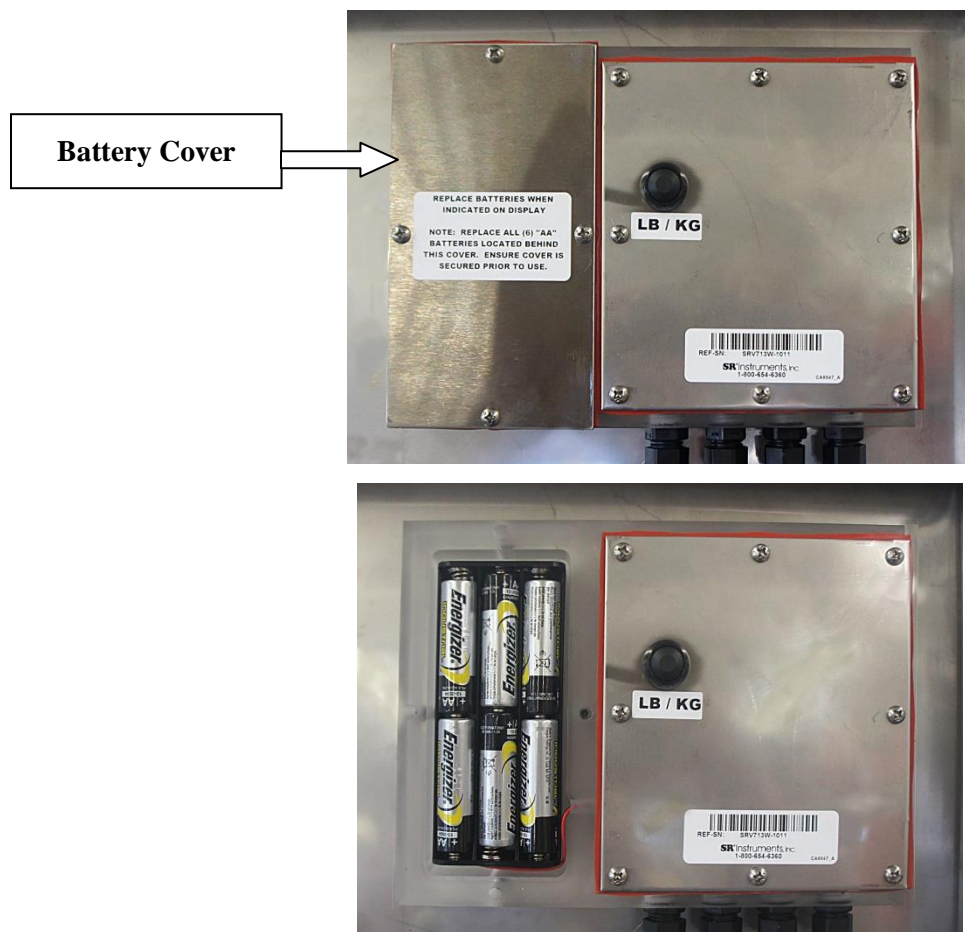

Figure 3: Battery Replacement
STEP 2: Remove the top platform and then the two (2) screws holding the display to the frame.
STEP 3: Pull the display out from under the platform and remove the eight (8) screws from the display cover (Figure 3). Place the top platform back on frame.